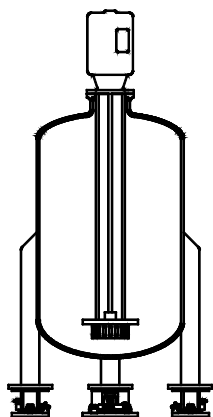

Figure 6-2: Tank Scale with High-Shear Mixer
- **Tank with High-Shear Mixer:** A high-shear mixer has an outer stator held by the outer rods while a concentric rotor is driven by the central shaft. These devices disperse, emulsify, homogenize, disintegrate, and dissolve liquids or solids in liquids. Materials can be added in large chunks, creating a pulsating effect as they are drawn into the stator. These mixers are typically driven at high speeds and can create high levels of vibration and pulsation. If they operate during weighing, then stabilizers are recommended (see Figure 6-2).